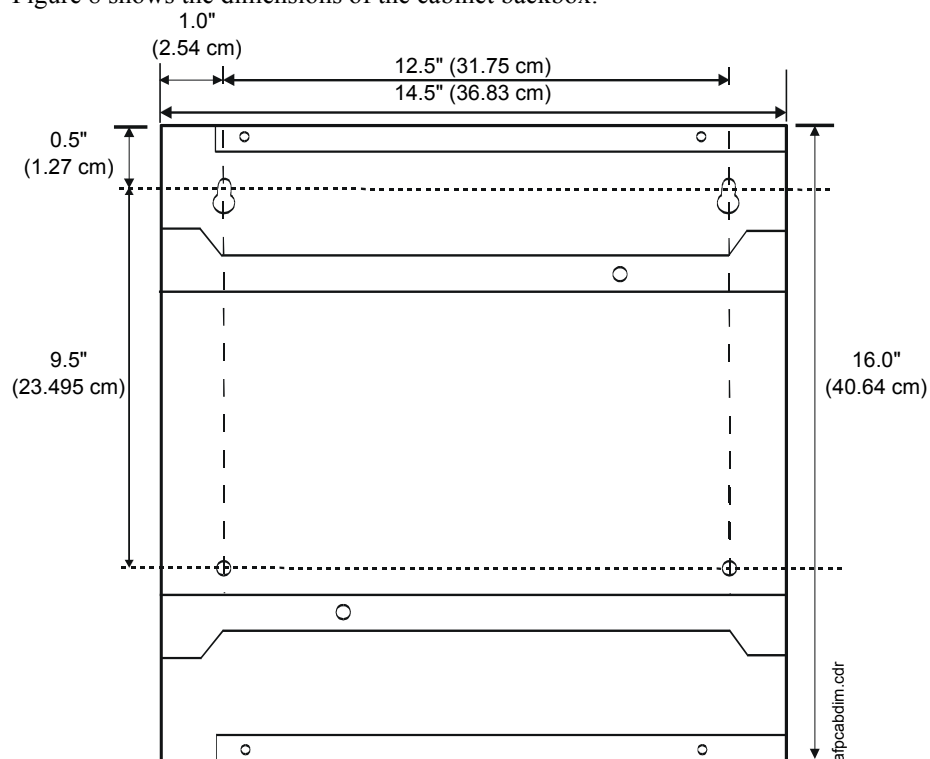

Figure 8 Backbox Dimensions
Figure 8 shows the dimensions of the cabinet backbox:
2. Mark and predrill the four mounting bolts using dimensions shown in Figure 8.